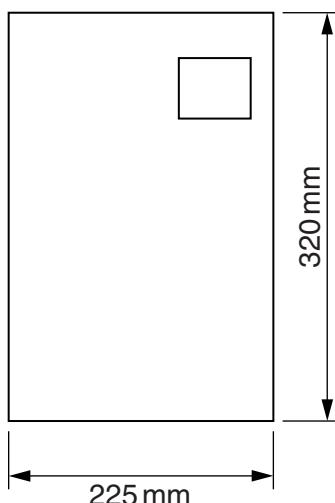

Fig. 3
- (c) Fig. 3 shows the front of the document wallet.